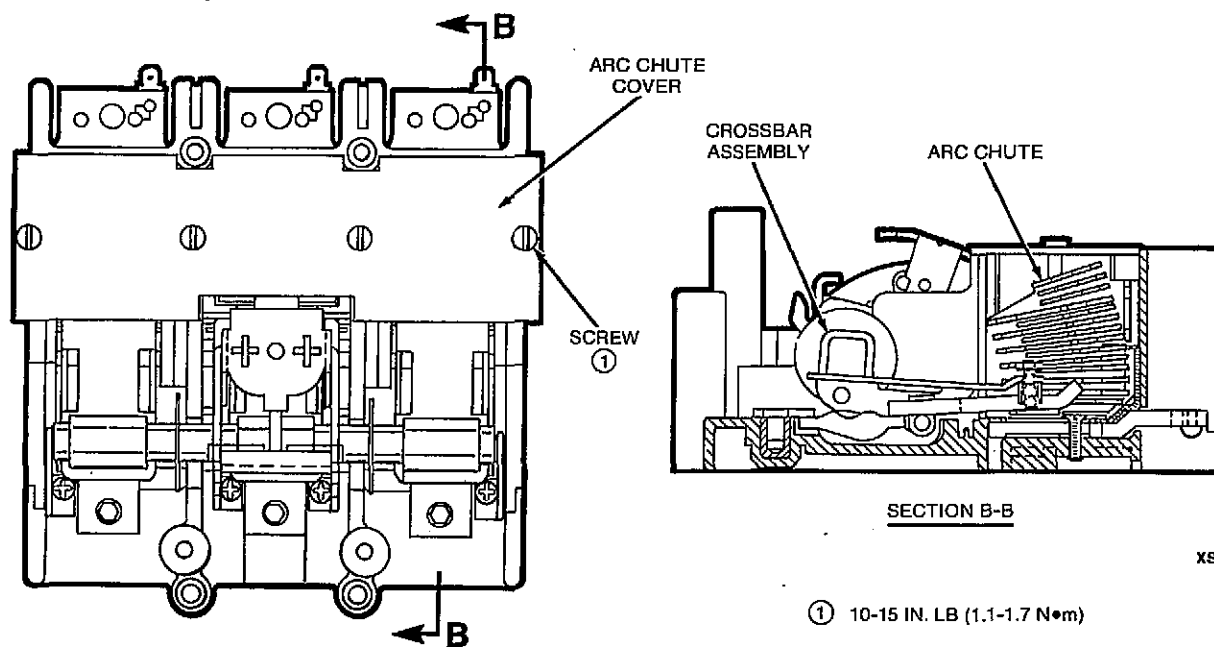

FIGURE 41. SWITCH ASSEMBLY
11. Remove the four screws and arc chute cover from the switch assembly (Figure 41). Then remove the arc chutes.